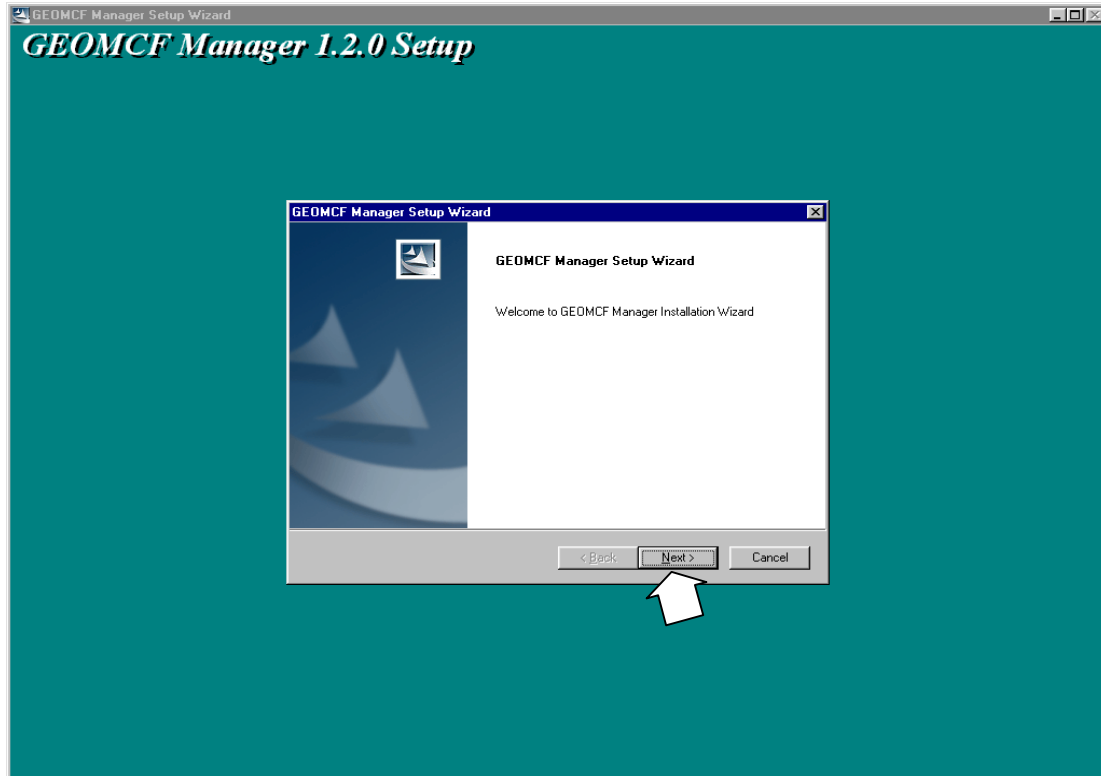

Figure 1-8
2. The “GEOMCF Manager Setup Wizard” window is displayed on the screen (figure 1-8).
The current version of the GEOMCF Manager being installed is displayed in the upper left corner of the screen (refer back to figure 1-8).